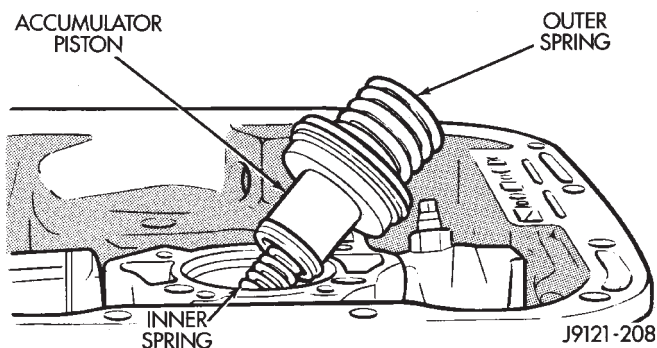

Fig. 16 Accumulator Component Removal (46RH)
(17) Remove accumulator outer spring, piston and inner spring (Fig. 16). Note position of piston and springs for assembly reference. Remove and discard piston seals if worn or cut.